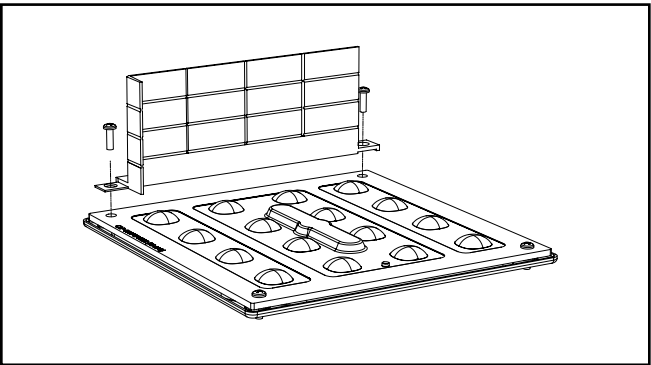

Figure 2.
- Remove the trim ring and place the PFS shield over the light square where required. (FIG. 2)